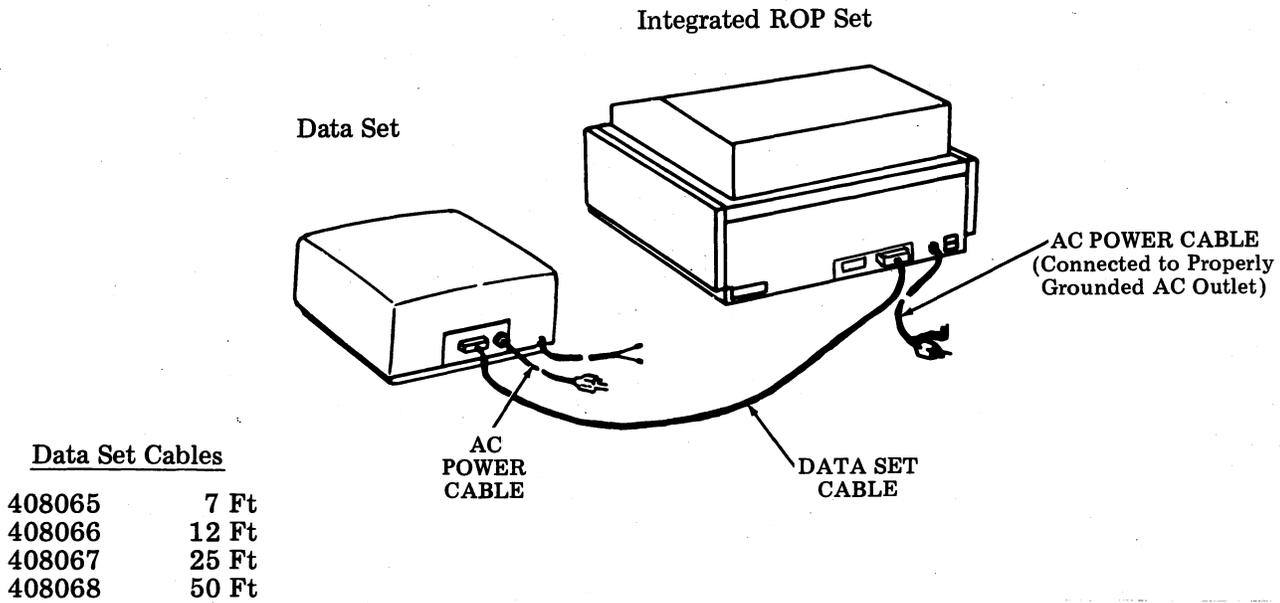

Fig. 46—Data Set Connection — Tabletop Cabinet
- 8.06 Data Set Connection: After the data set has been optioned, connect to the Integrated ROP Set (Fig. 46, 47, 48).